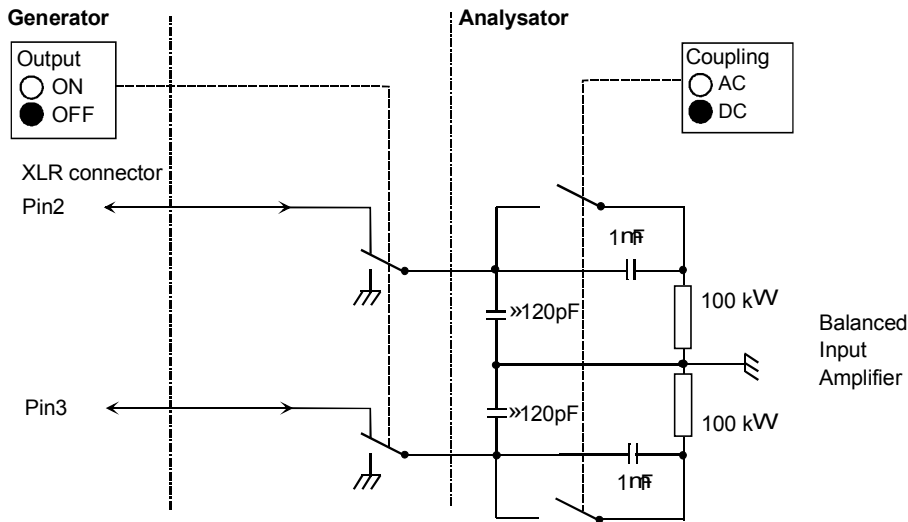

Fig. 2-18 Internal connection to generator output
**Balanced to ground test inputs via XLR female connectors (see Fig. 2-18).** Deactivated inputs are floating, set input impedances 300 Ω or 600 Ω are retained. Unbalanced measurements can be performed via BNC/XLR *adapter* (UPL-Z1 option).